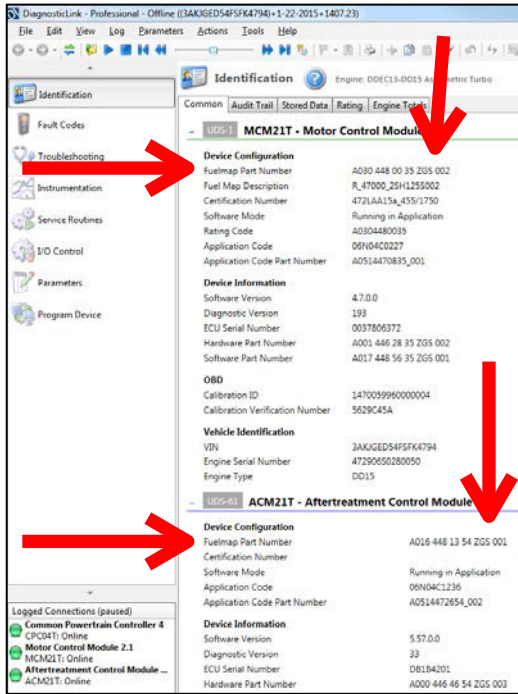

Figure 2 – DiagnosticLink® Identification Screen
7. Is the fuel map ZGS version level for the MCM and ACM less than, equal to, or higher than the fuel map ZGS revision levels listed in step 5? The MCM and ACM fuel map ZGS version levels must meet the **MINIMUM** requirements. For example, in Figure 2, both the MCM and ACM software levels meet the minimum required of MCM 4.7.0.0 and ACM 5.57.0.0, but the fuel map ZGS version levels of MCM 002 and ACM 001 are less than the minimum levels of MCM 003 (except for three ratings that are 004) and ACM 004, and thus would require programming.